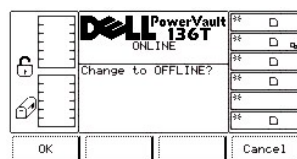

Figure 3. Offline Confirmation Dialog
- 1 If the button beneath the **Change** softkey is pressed, Figure 3 is displayed.